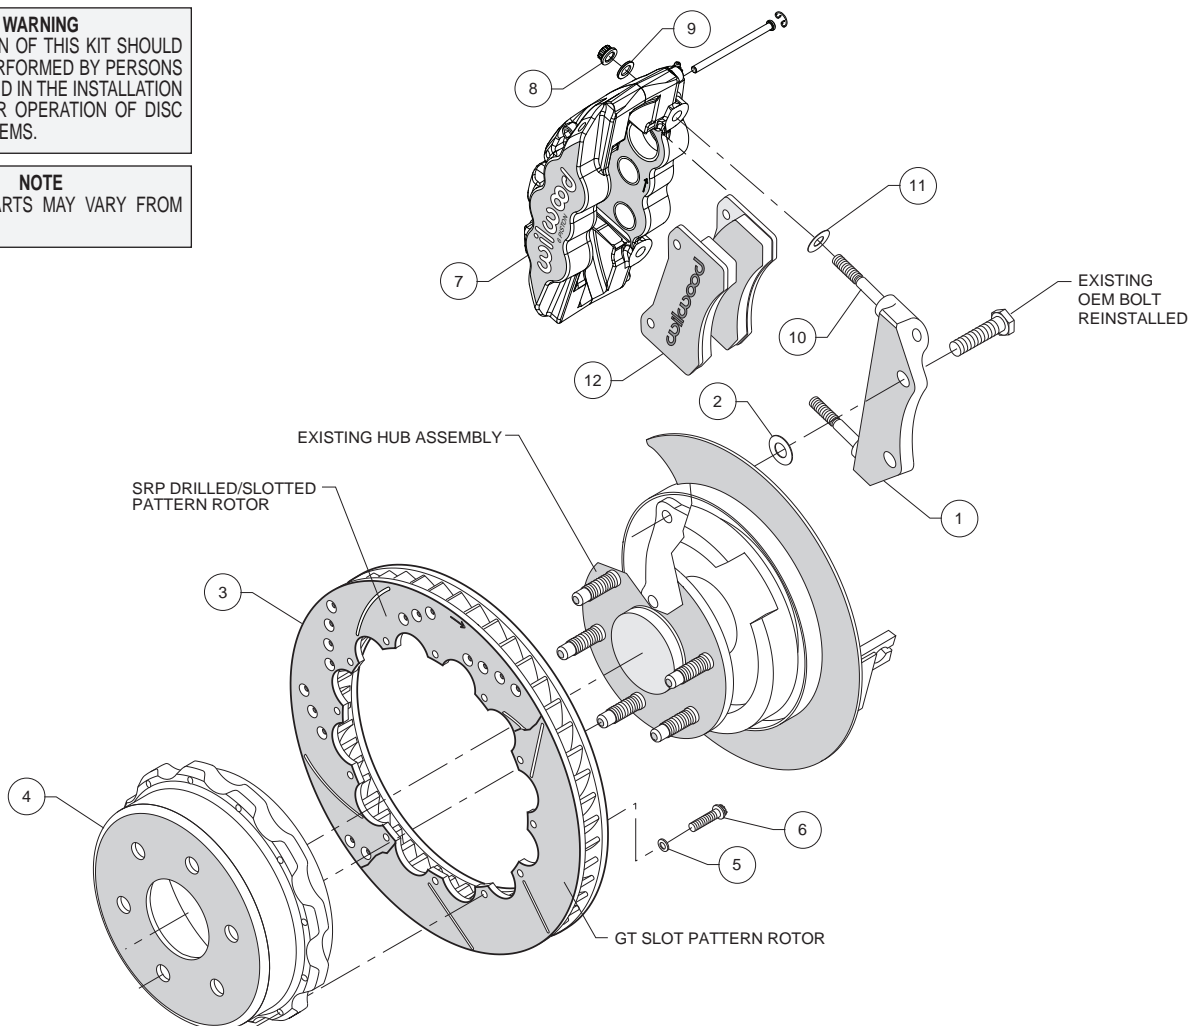
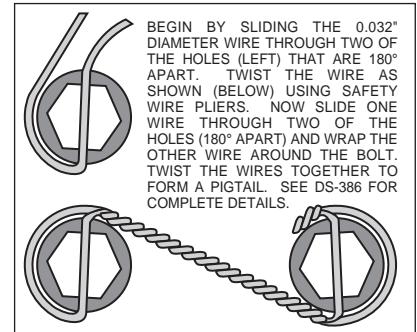

Figure 1. Typical Installation Configuration
Figure 3. Safety Wire Diagram
Assembly Instructions (numbers in parenthesis refer to the parts list and Figure 1 on the preceding page):
- With the larger I.D. side of the rotor (3) facing away from the hat (4), bolt rotor (3) to hat (4) through the backside of the rotor using washers (5) and bolts (6). Using an alternating sequence, apply red *Loctite*® 271 to the threads and torque bolts to 140 **in-lbs**. The bolts must be safety wired using standard 0.032 inch diameter stainless steel safety wire as shown in Figure 3. Please refer to Wilwood's data sheet DS-386 (available at www.wilwood.com/Pdf/DataSheets/ds386.pdf) for complete safety wire installation instructions.
- Install one shim (11) over each stud (10) on the radial mount bracket (1). Slide the caliper (7) in place over the studs and rotor and install the washer (9) and lock nut (8) to hold the caliper in place. The caliper bleed screws should be pointing up. Snug the lock nuts (8) and check that the rotor (3) is centered in the caliper (7). Add or subtract .029" shims (2) as necessary between the caliper mount bracket (1) and the caliper mount bosses on the upright assembly to center the caliper (7).
- Remove the two pad retaining pins from the caliper (7) by carefully popping out the pin retaining clips and sliding out the pins. Insert the brake pads (12) into the caliper from the bottom, Figure 1. With the friction material facing the rotor, secure the brake pads in place with the pad retaining pins and clips. Reinstall the caliper onto the caliper mounting bracket and temporarily tighten the lock nuts. Check that the top of the brake pad is flush with the outside diameter of the rotor. If not, adjust by adding or subtracting shims (11) between the caliper and the bracket.
- Adjust the parking brake shoes outward (using a drum shoe adjustment tool available at your local auto parts store) while spinning the hat (4) until a slight drag is felt against the hat/drum.
- Once all clearances have been checked, remove the wheel, caliper and rotor from the axle flange. Secure the caliper mounting bracket (1) to the upright using red *Loctite*® 271 on the bolt threads. Torque the bolts to manufacturer's specifications. Reinstall the rotor and again use several lug nuts to hold it in place. Lubricate caliper mounting studs and nuts with lightweight oil, reinstall the caliper, torque the caliper nuts (8) to 47 ft-lbs.